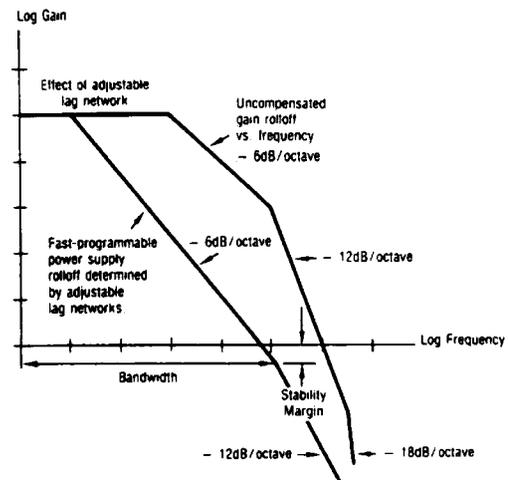

Figure 2: Gain-frequency plot, fast programmable power supply showing increased bandwidth, and reduced stability margin
3. Fast programmable power supplies and convertible models in their fast-programmable mode are far less tolerant of load reactance. Since bandwidth has been vastly increased, the unity gain crossover frequency lies at a much higher frequency and therefore the stability margin has correspondingly decreased (See Fig. 2).